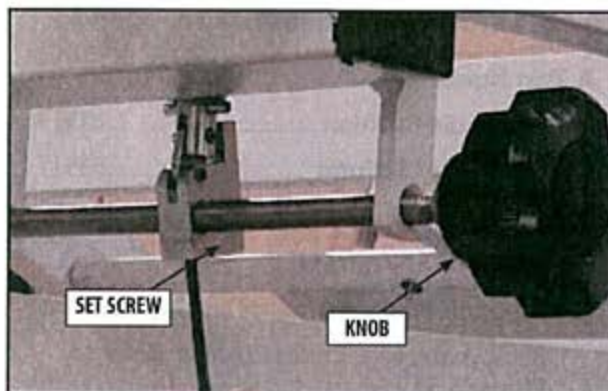

FIGURE 5.29
1. On the end closest to the Mechanical Lock, release the jam nut securing the Slide Section Lock Release to the threaded rod. Remove the Slide Section Lock Release. **Refer to Figure 5.29**
3. On the under side of the Mechanical Lock, remove the set screw that secures the Mechanical Lock to the rod. **Refer to Figure 5.29.**